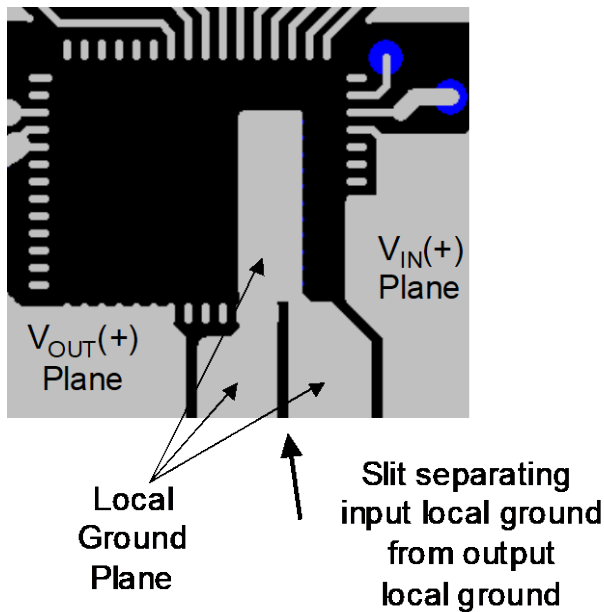

Figure 8. Layout of power and ground planes
**Recommendation 2:** Place a slit in the input/output capacitor ground plane just beyond the common connection point of the GND pins of the device as shown in figure 8.